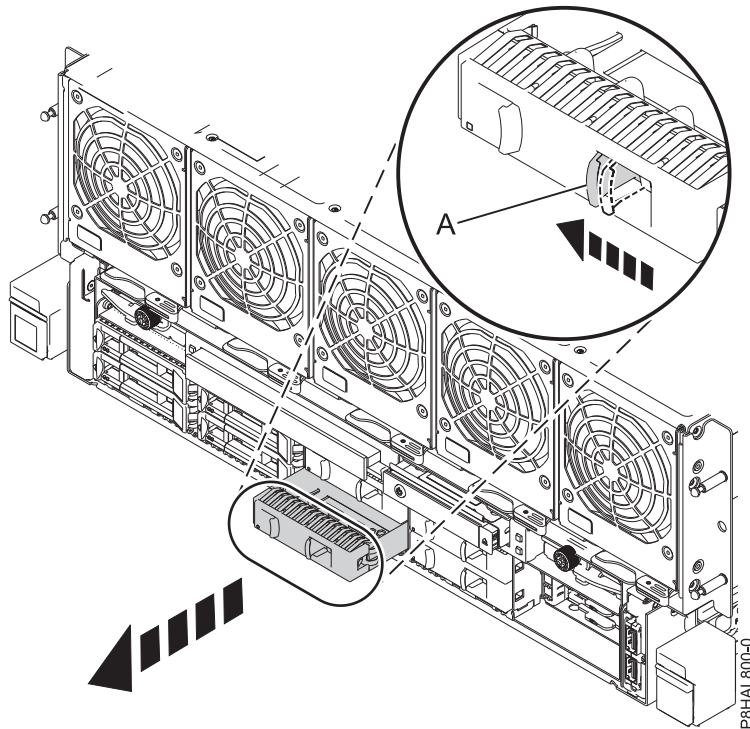

Figure 7. Removing a disk drive filler from an 8408-44E or 8408-E8E system
- a. Push the lock (A) on the handle of the filler in the direction that is shown in Figure 7 on page 15.